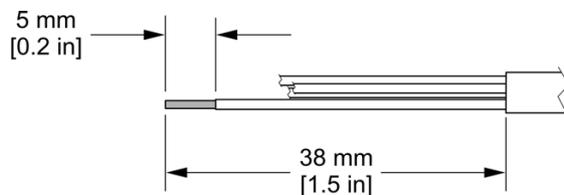

Figure 2 Prepare the wire
1. Strip 1.5 inches off the customer-supplied cable jacket (Figure 2 on page 4).
2. Strip off 0.2 inches from each cable wire (Figure 2 on page 4).